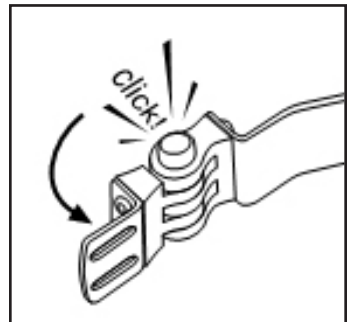

Fig. 12
3. Pad bracket is locked into place when an auditory click is heard and the button is fully extended. *Fig. 12*